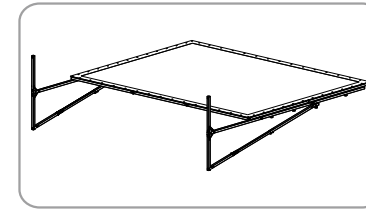

Figure 22
- Lay down the screen on flat floor with screen fabric facing up ( Figure 22 ).